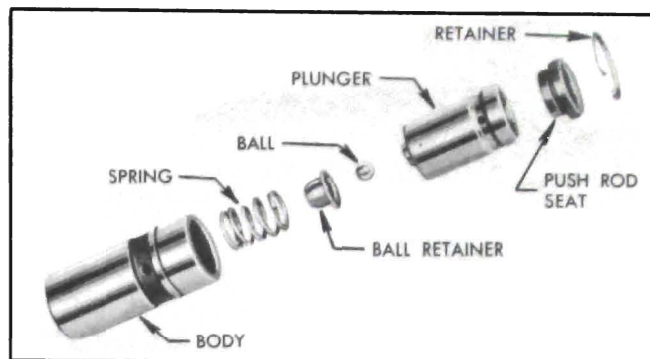

Figure 2-33—Hydraulic Valve Lifter Parts
2. Hold plunger in vertical position with feed hole up, then rinse and install the check ball, ball retainer, spring, and body over the plunger. See parts in Figure 2-33.